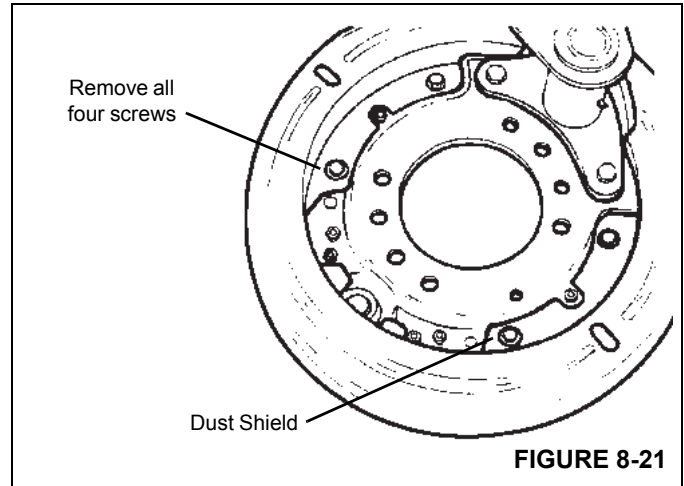

FIGURE 8-21
18. Remove screws and retaining clip securing dust shield to spider and remove dust shield (see Figure 8-21).
5. Install new grease seals with a piloted driver so the seals are flush with the end of the air chamber bracket tube (see Figure 8-21).